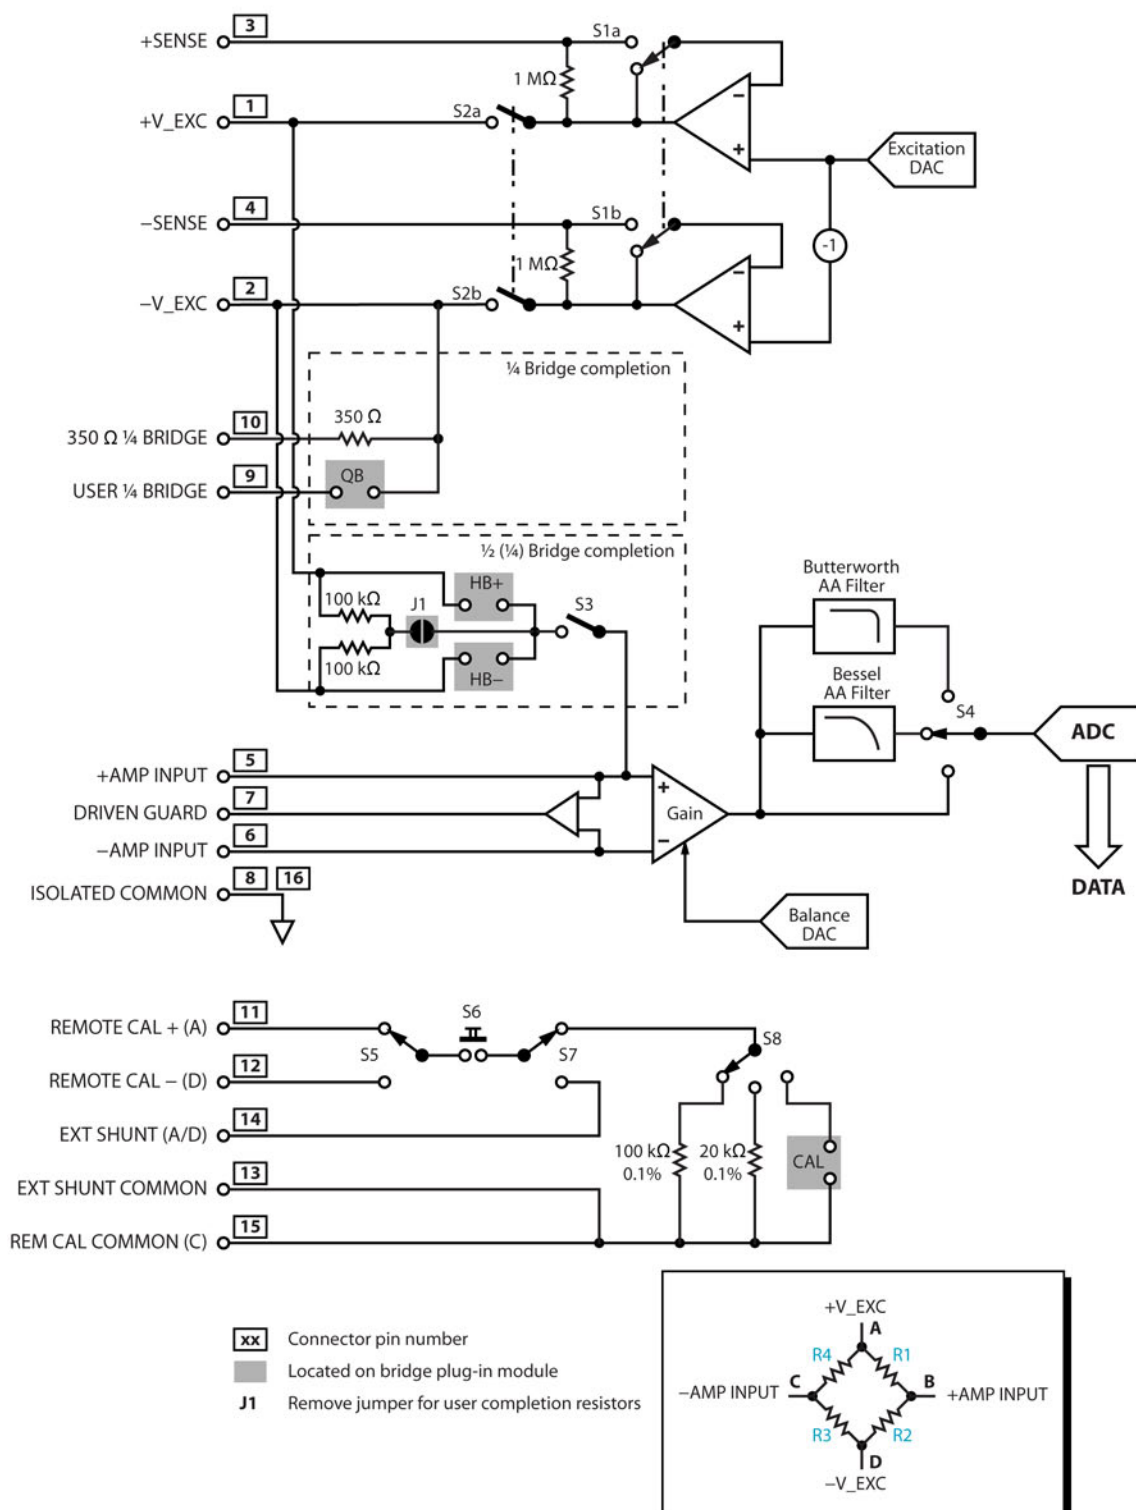

Figure 12.9: Bridge amplifier block diagram with pinning
- E Sense on/off (S1a and S1b in Figure 12.9 on page 253)
- I Excitation on/off (S2a and S2b in Figure 12.9 on page 253)
In situation (2) you will need to add the two resistors to the plug-in module on the locations marked HB+ and HB-. You will also need to remove the jumper J1. Refer to Figure 12.9 on page 253 for electrical/schematic details and to for mechanical/location details.
- 5 When you select half bridge completion, switch S3 in Figure 12.9 will be closed.